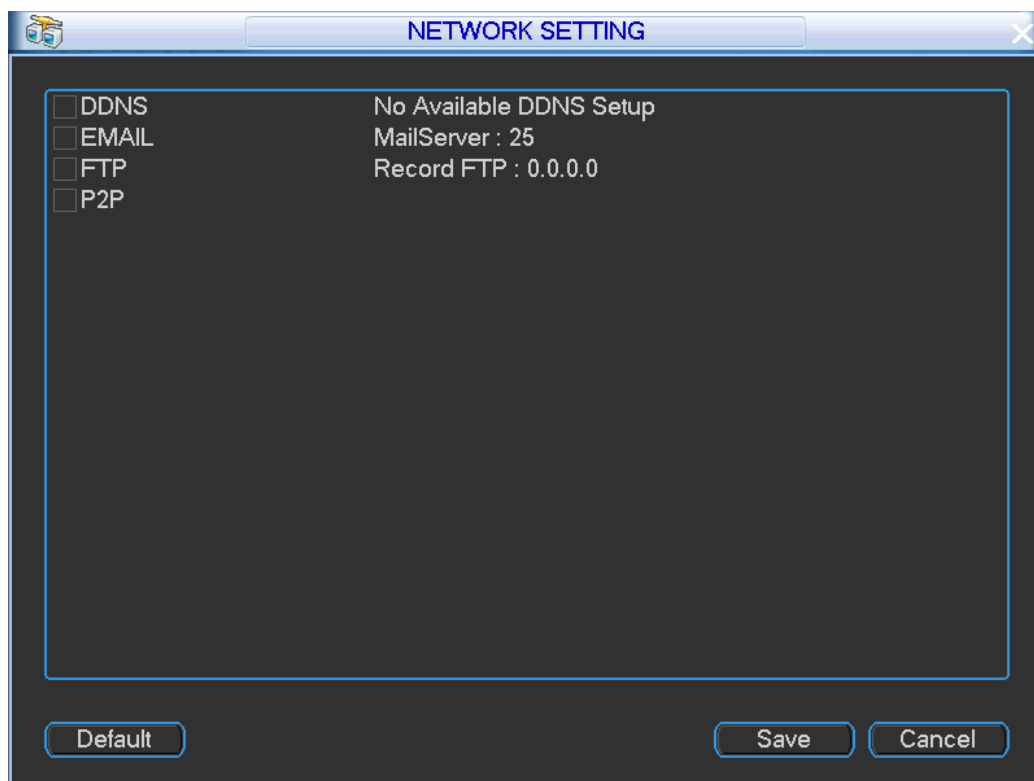

Figure 4-54
- Network setting: Click it, enter network setting interface. See Figure 4-54. It includes DDNS(chapter 4.12.2), email(chapter 4.12.3), FTP(chapter 4.12.4) and P2P(chapter 4.12.5).